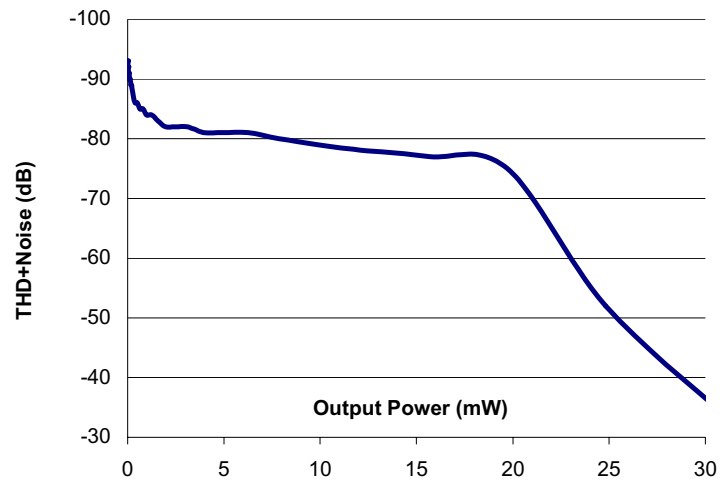

Figure 3 Distortion Versus Power on Headphone Outputs, using 32 Ω Load and AVDD = HPVDD = 3.3V
1. Harmonic distortion on the headphone output decreases with output power – see Figure 3.